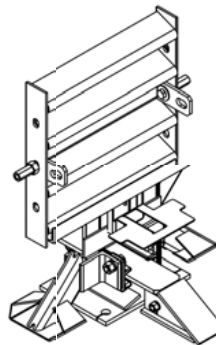

Figure15
- 6) Remove the Nose Assembly and attach a chain to the Pullout Brackets on the first Diaphragm (Figure 15). Attach both ends of chain to a heavy vehicle (such as a 1 ton pickup).